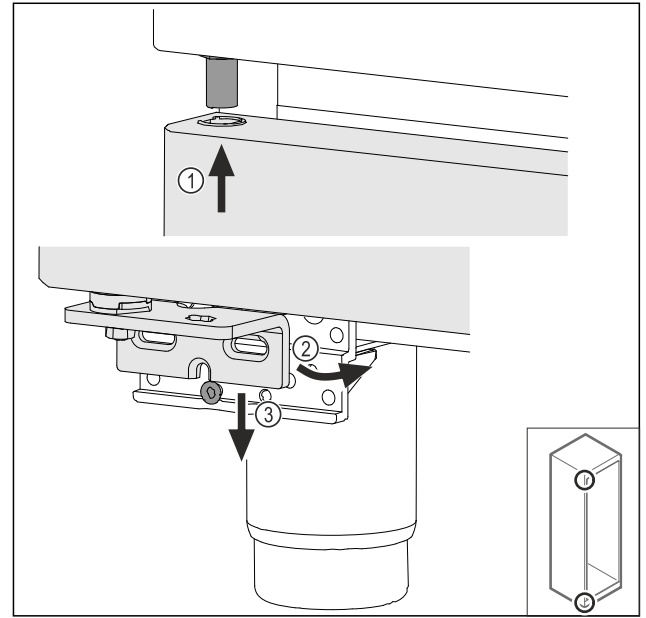

Fig. 74
- ▶ Feed in the door slightly tipped at the top Fig. 74 (1), align the door straight Fig. 74 (2) and fit the swap bearing block screw Fig. 74 (3) at the bottom.